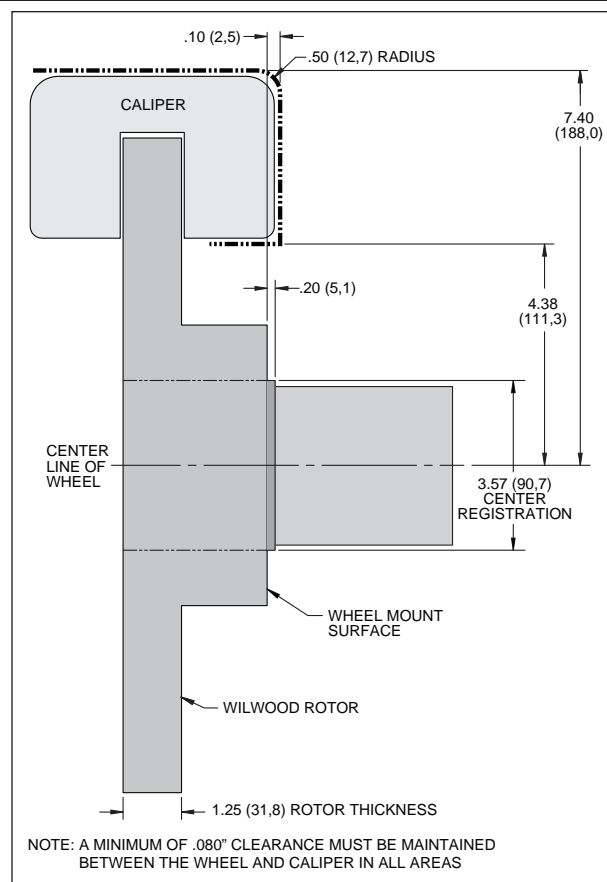

Figure 2. Wheel Clearance Diagram
- Review the Wheel Clearance Diagram (Figure 2, page 3) to verify that there is adequate clearance with the wheels you will be using with the installation.
- Verify your wheel clearance using Figure 2.
- **CAUTION:** Wheel fitment to OEM hub interference must be checked. There is a 3.57" diameter step on the hub face that was used to register the old brake drum (Figure 2). Be sure your wheel fits flush against the hub face. If the step interferes, you will need to use a wheel spacer (customer supplied) to clear the step.
- Temporarily install the wheel and torque the lug nuts to the manufacturer's specification. Ensure that the wheel rotates freely without any interference. **CAUTION:** *Wheel fitment to OEM hub interference must be checked.* There is a 3.57" diameter step on the hub face that was used to register the old brake drum (Figure 2). Be sure your wheel fits flush against the hub face. If the step interferes, you will need to use a wheel spacer (customer supplied) to clear the step.
• **NOTE:** OEM rubber brake hoses generally cannot be adapted to Wilwood calipers. The caliper inlet fitting is a 1/8-27 NPT. Install Wilwood's stainless steel braided flexline hose kit (21), P/N 220-13319 included with this kit. **Carefully route hoses to prevent contact with moving suspension, brake or wheel components.** **NOTE:** Wilwood hose kits are designed for use in many different vehicle applications and it is the installer's responsibility to properly route and ensure adequate clearance and retention for brake hose components.